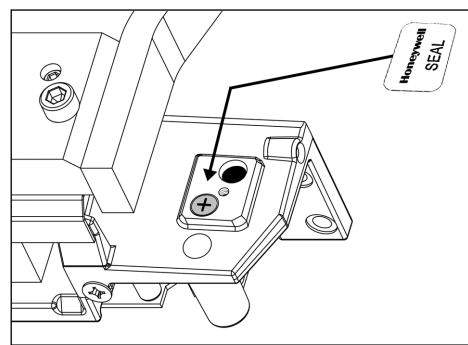

Figure 56.
2. Apply the adhesive calibration security seal over the calibration button access hole (see Figure 56).